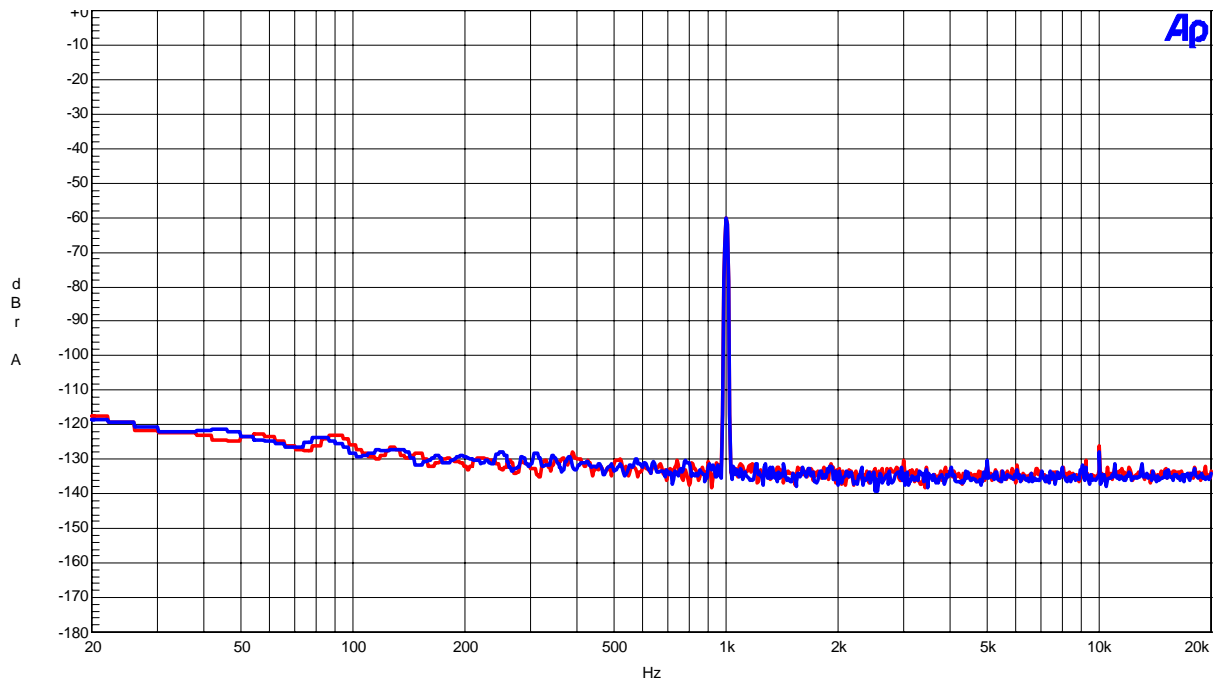

Figure 9. FFT(Input Frequency=1kHz, Input Level=-60dBFS)
- Figure 9. FFT (Input Frequency =1kHz, Input Level =-60dBFS)